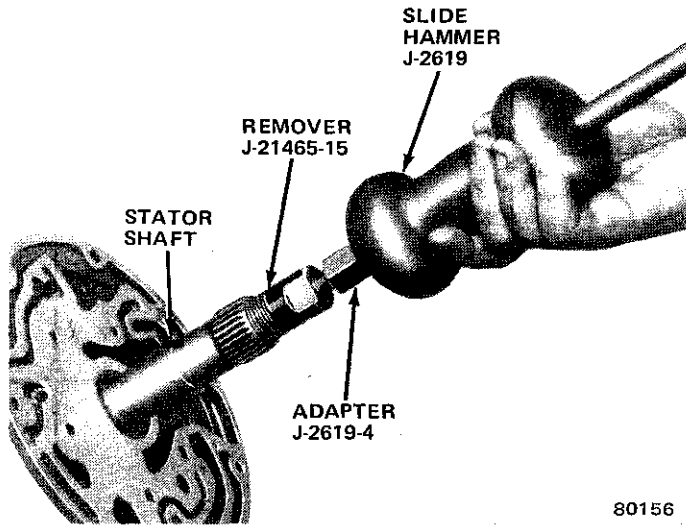

Fig. 2C-129 Stator Shaft Front Bushing Removal
(6) Assemble Installer J-21465-3 and Driver Handle J-8092 (fig. 2C-130).
(7) Position replacement bushing on Installer J-21465-3 and install bushing (fig. 2C-130). Drive bushing into shaft until installer tool bottoms.
(8) Remove bushing tools.
(9) Flush shaft with solvent to remove any chips or shavings generated by bushing installation.